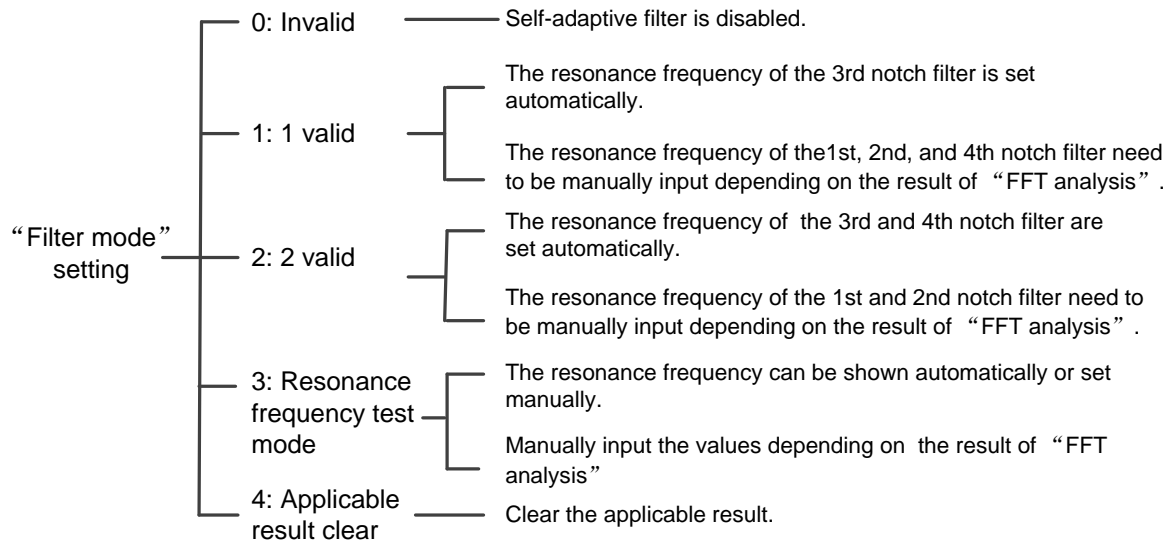

Fig. 5-4 Filter mode setting description
- Set filter mode, see Fig. 5-4 for details. Here are several conditions: